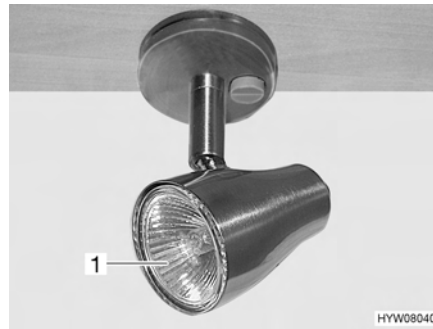

Fig. 105 Halogen spotlight
- Pull the halogen bulb (Fig. 105,1) forward out of the socket.